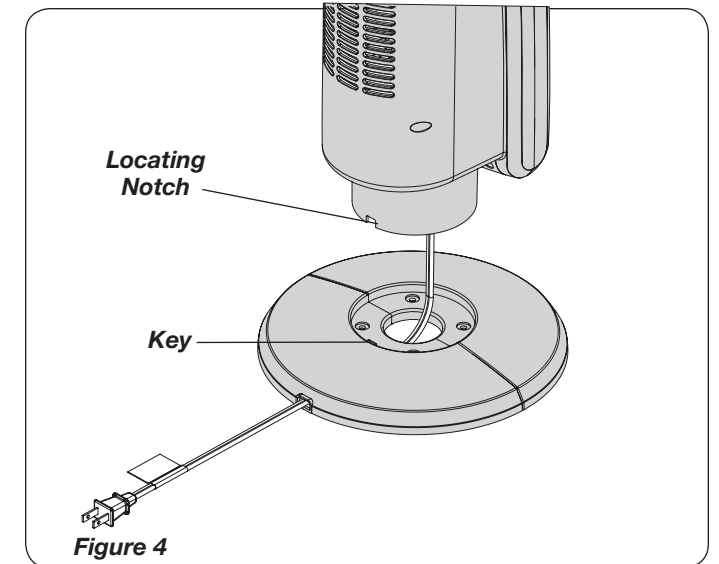
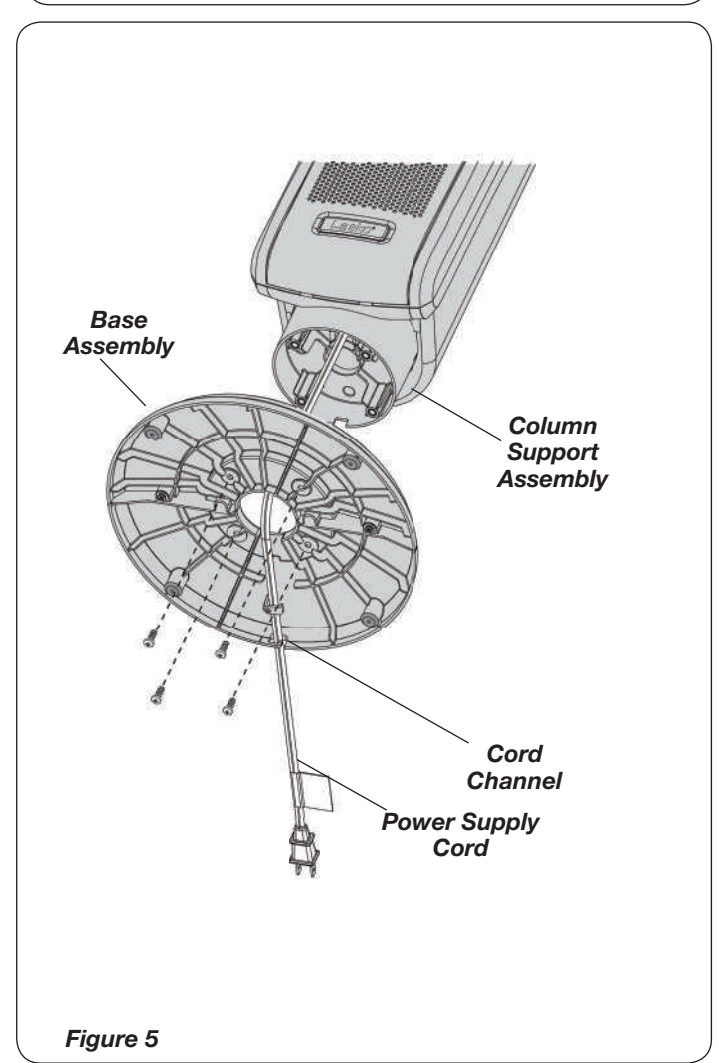

Figure 4
Figure 5
- Align the **Base Assembly** with the **Column Support Assembly**. Make certain to align the **Locating Notch** on the **Column Support Assembly** with the **Key** on the **Base Assembly** (Figure 4). Attach the **Base Assembly** to the **Column Support Assembly** with (4) M5 X 13 mm Screws. Gently pull any excess slack of the **Power Supply Cord** and place it in the **Cord Channel** of the **Base Assembly**. (Figure 5)
REMOTE CONTROL (Figure 4)
Remote control hook is located on back of Heater (Figure 5).